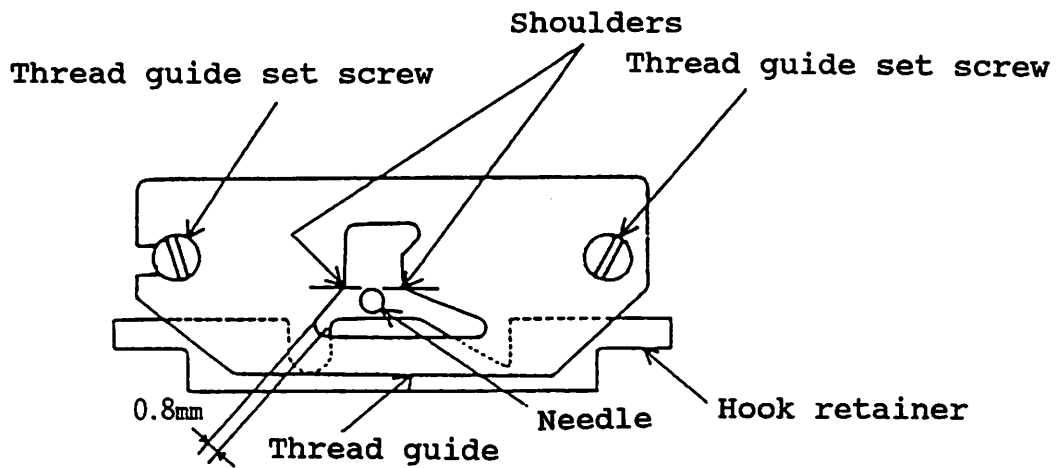

Fig. 9.9
9.4. Adjusting the thread guide (above hook) (Fig. 9.9)